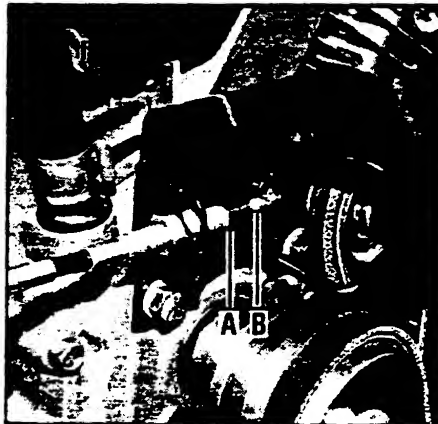

Figure 5-5: Measure cable wire length to check for correct reverse belt tension.
3. Have an assistant pull the Reverse Clutch Control knob all the way out and hold it in that position. Measure the length of the cable wire between the end of the threaded cable adjuster (A, Figure 5-5) and the end of the z-fitting (B) to which the cable wire is attached.